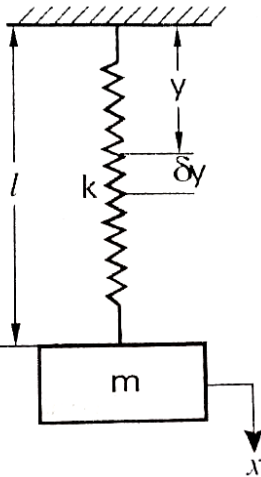

Fig. 1c
- c. Determine the natural frequency of a spring mass system Fig.1c where the mass of the spring is also to be taken into account 8